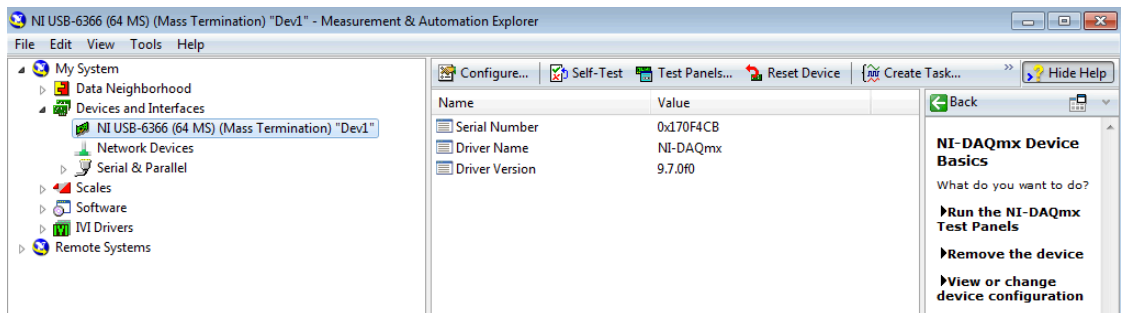

Figure 6: Self-test window
- d. Click on the USB-6366 device and then click the Self-Test button. Make sure the device passes the test (Figures 6 & 7).